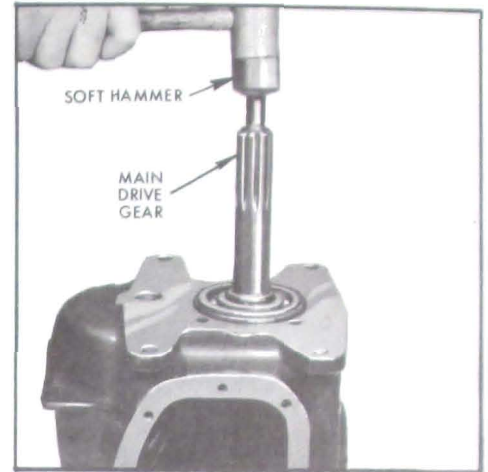

Figure 4-126—Removing Main Drive Gear
14. With soft hammer, tap main drive gear down from front bearing as shown in Figure 4-126.